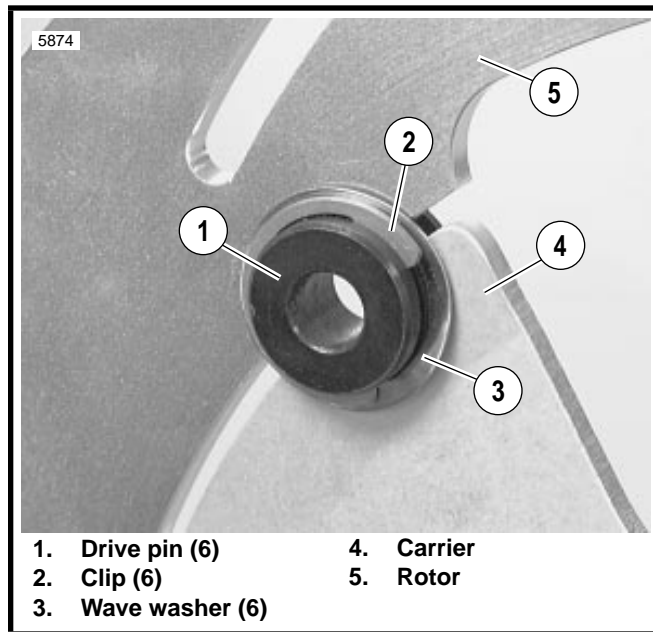

Figure 10. 1997 Rotor to Carrier Fastener
See Figure 10. All 1997 model year motorcycles have new fasteners on the front brake rotor/carrier assembly.
1. See Figure 10. Remove and discard the clip (2).
2. Remove the wave washer (3).
3. Remove the drive pin (1). Repeat this procedure for the other five fasteners to separate the carrier (4) from the rotor (5).